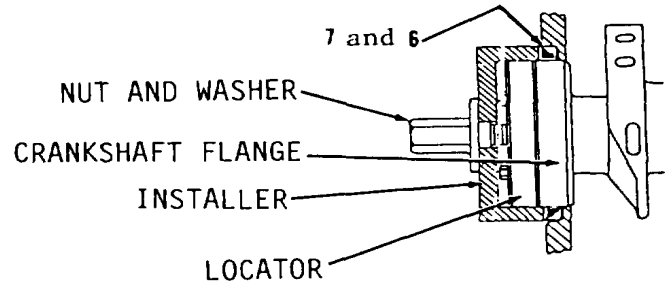

Figure 13-61.
8. Position installer on locator behind items 7 and 6 as an assembly.
10. Install and tighten nut and washer on installer until installer comes in contact with locator and pushes items 7 and 6 as an assembly on crankshaft flange (Figure 13-61).